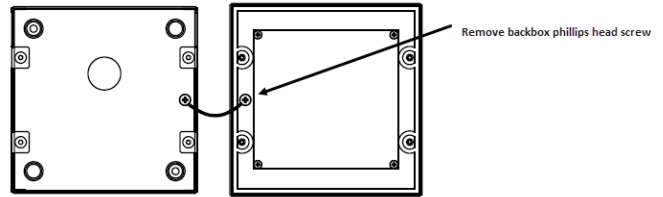

Figure 2. Swing panel to expose ground wire
3. Swing the front panel of unit out to expose the ground wire as shown in Figure 2.